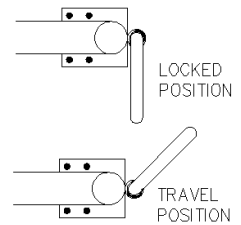

Figure 7
3. Grab dock gate pin, pull upward to release from receiver hole in floor, rotate 135 degrees counterclockwise and release to travel position see figure 7.